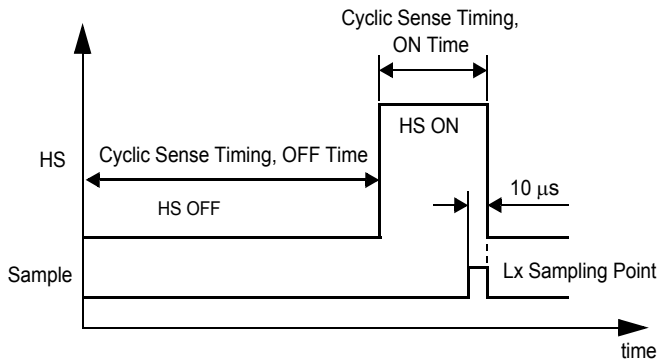

Figure 27. HS Operation When Cyclic Sense Is Selected
2. TIM2—Selects an appropriate timing for sensing the wake-up circuitry or cyclically supplying devices by switching the HS on or off. TIM2 is selected when bit D3 is 1 (Table 27). Figure 27, page 44, describes HS operation when cyclic sense is selected. Cyclic sense timing characteristics are described in Table 29, page 44.